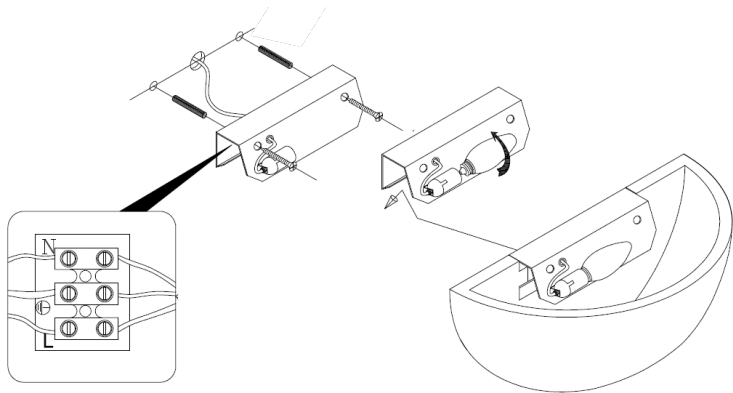

Fig. 1
- Fix the mounting plate to the wall using screws and wall plugs provided (see Fig. 1)